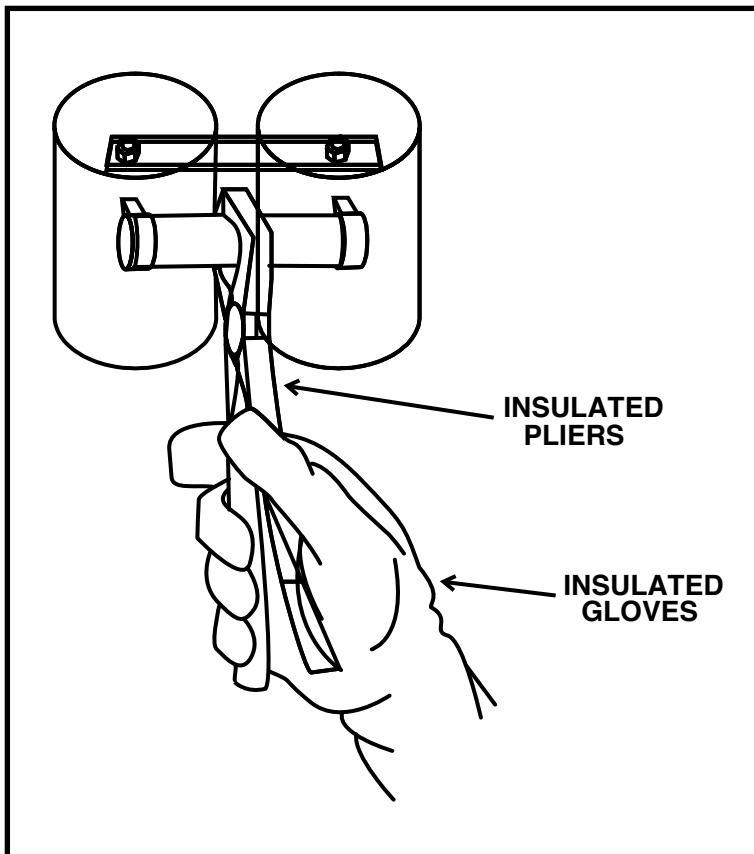

FIGURE D.1 - Capacitor Discharge Procedure
NOTE: See Figure D.1.
3. Locate the two capacitors shown Figure D.1 and D.2.